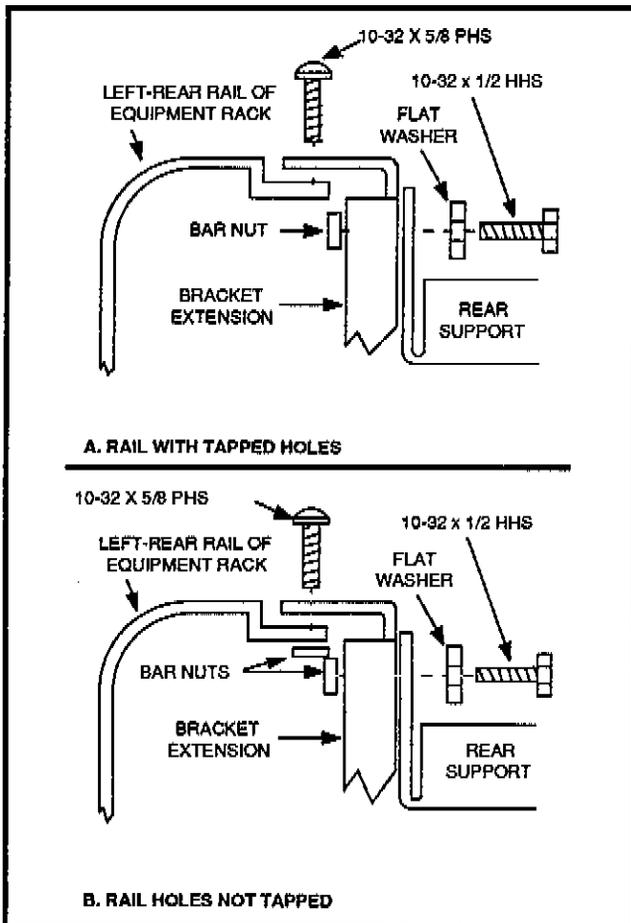

Figure 6-6. Installing bracket extensions.
5. Secure the bracket extensions to the rear support using four 10-32 x 1/2-in hex-head screws, four flat washers, and two bar nuts as shown in Figure 6-6.